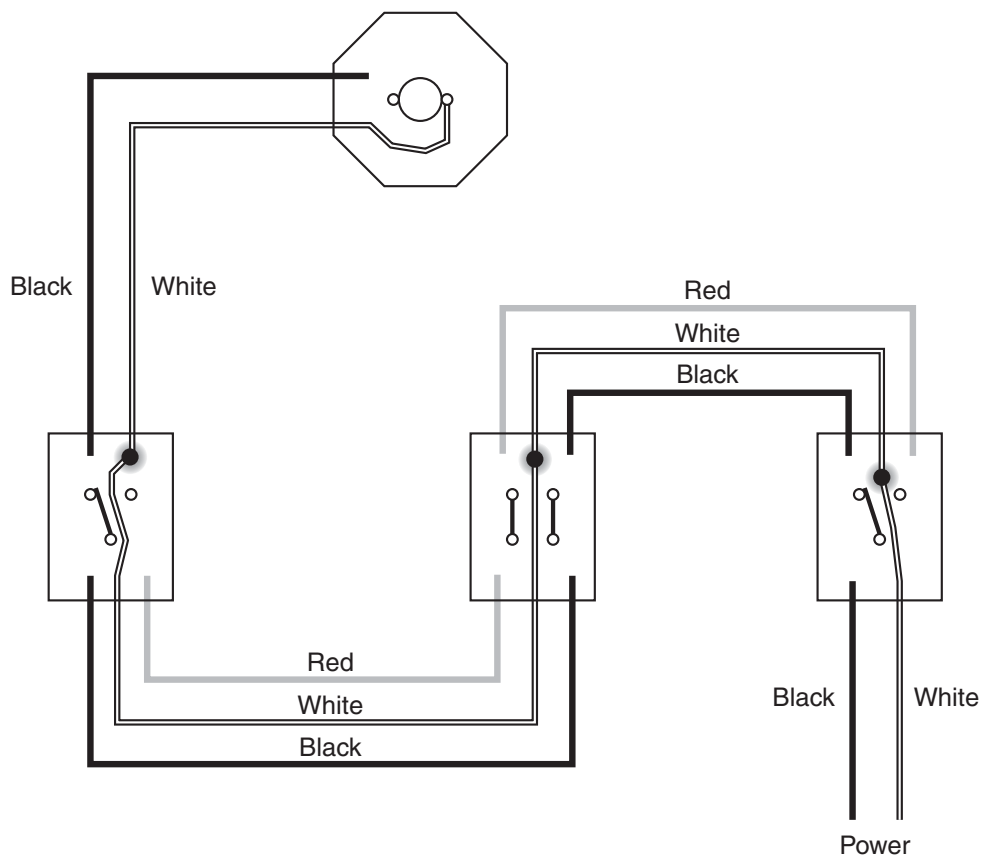

Figure 9-9 The neutral is connected to the lamp.
1. *Connect the neutral to the light.* The neutral is the white wire of the two-conductor cable that enters the switch box. It will connect to the white conductor of the three-conductor cable. The two white wires in the 4-way switch box will connect together, and the white wire in the second 3-way switch box will connect to the white wire that runs between the switch box and the lamp box. Then the white wire will connect to one side of the lamp (Figure 9-9).